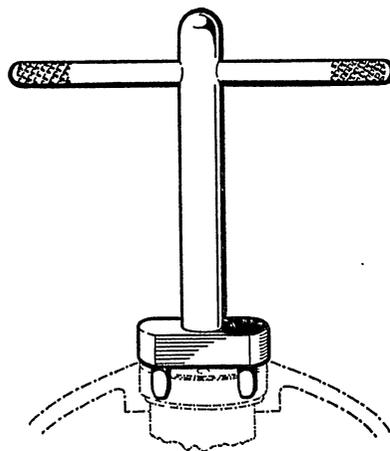

Fig. 6. Peg spanner ST.5005
- (1) Unscrew the spring housing, using the peg spanner ST.5005 (fig. 6). Remove the sealing washer and the spring.
(5) Remove the top chamber from the setting fixture. Fit the diaphragm spring, a new sealing washer (Ref. No. 27KD/247) and the spring housing. Use the peg spanner ST.5005 (fig. 6) to tighten the housing.
(6) Apply the top chamber sub-assembly tests (*para.* 28 and 29).
(7) Fit the retaining bolt into the orifice body, securing it with the circlip (A.G.S.